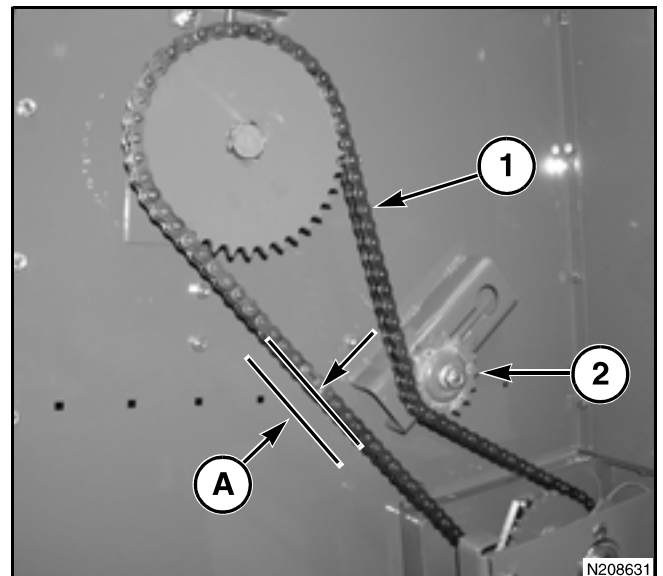

FIG. 598
FIG. 598: Adjust the tension of the grain bin filling auger drive chain (1) by moving the idler sprocket (2) in the adjustment slot. The chain must have 11.6 to 17.3 mm (0.46 to 0.68 in) slack (A) at the tightest point of rotation on the center of the longest span. Tighten the idler sprocket lock nut securely when the correct location of the idler sprocket is determined.